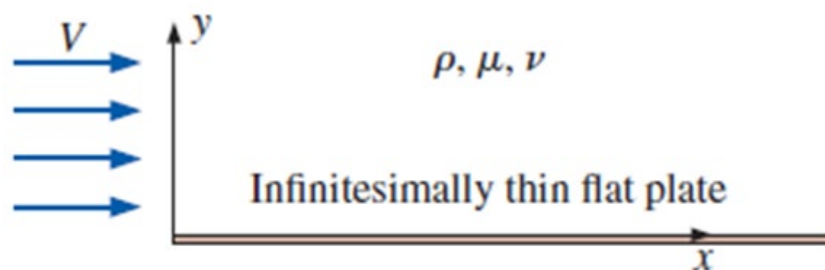

Figure 2 (b)
- (b) Consider a fluid that flows over a smooth flat plate as depicted in Figure 2 (b).